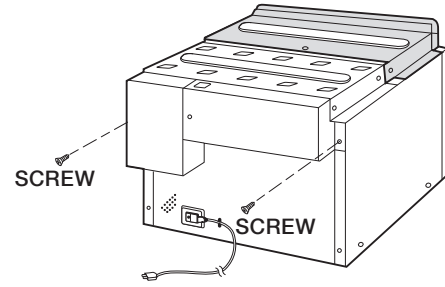

Figure 5B
F. Remove SCREW from the upper right and left corners at the rear of the oven. Place duct assembly on the top of the unit as shown and secure the duct assembly to the oven using the two screws just removed from the oven. See Figure 5B.